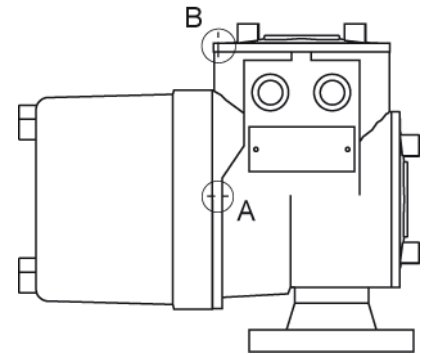

Figure 3.4 Setscrews locking the covers
- Open the electronic compartment cover (front cover). Mind the setscrew! (refer to figure 3.4).